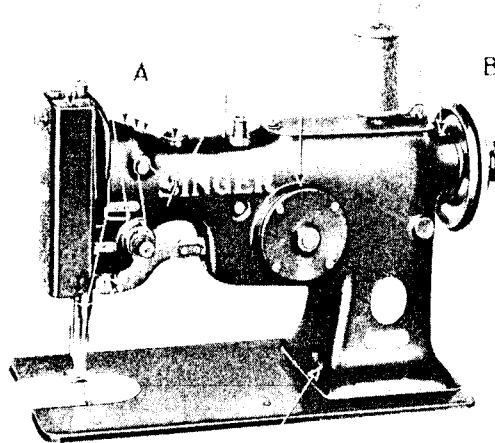

Fig. 2. Front View of Machine, Showing Oiling Points
the places designated by arrows in Figs. 2, 3, 4 and 5, and all other places where there are parts in movable contact. When the machine is in continuous use, it should be oiled at least twice each day. Swing back the cover which is on top of the machine and oil the wicks and bearings thus uncovered, then replace the cover.
The length of feed (of the feed dog) is regulated by the feed regulating spindle head (B, Fig. 2) at the right of the balance wheel. To lengthen the stitch, turn the spindle head (B) over toward you. To shorten the stitch, turn this spindle head over from you.